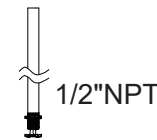

Figure8
1. Unscrew the nuts on 1/2" NPT(Figure8);